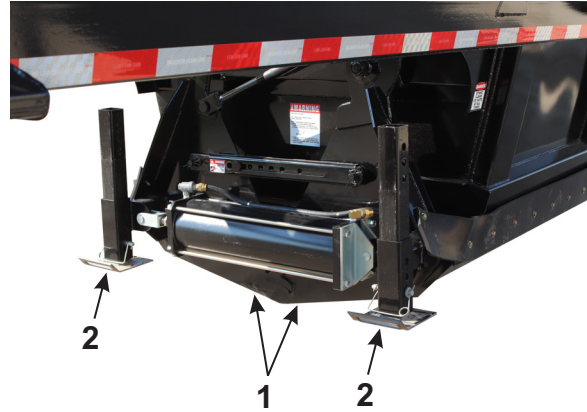

Figure 3-2– Dump Gates and Load Legs in Travel Position
6. Make sure the dump gates are closed (1, Figure 3-2).
7. After the semitrailer has been securely attached to the tractor, make sure the support legs and landing pads have been fully retracted and secured into the travel position (2, Figure 3-2) before moving the semitrailer.